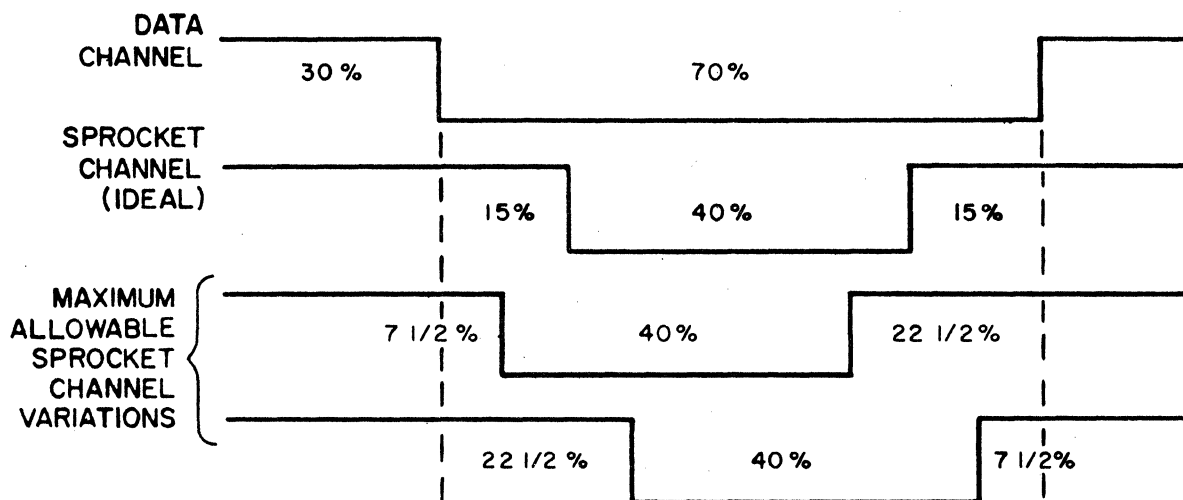

Figure 5-8 Relative Coincidence of Sprocket and Data Channel Outputs
- c. Observe the sprocket and data channel waveforms and compare the relative coincidence between the two. See Figure 5-8 for the proper relationship and the allowable variations to it.
Various factors such as badly punched tape, cumulative tolerances, or tape skewing may add together to cause variations in the relative coincidence between the sprocket and data channel outputs. These variations are acceptable within the tolerances specified in Figure 5-8. If the relative coincidence can not be brought within the specified tolerances by readjusting the sprocket and data channel amplifiers, the head assembly should be returned to the factory.